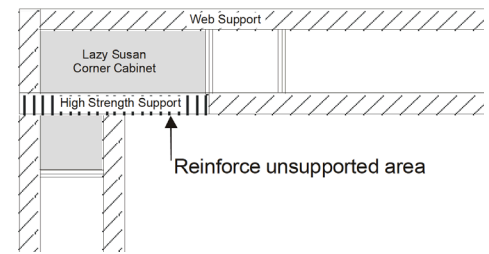

Figure 37B
- Backsplash squaring block (FIG. 37B)
- Certain unsupported areas are in need of stronger frame material. These include inside corner cabinets, especially lazy susan, dishwasher openings, sink base fronts, desks and anywhere else that the cabinet is weaker than others. (FIG. 37B)